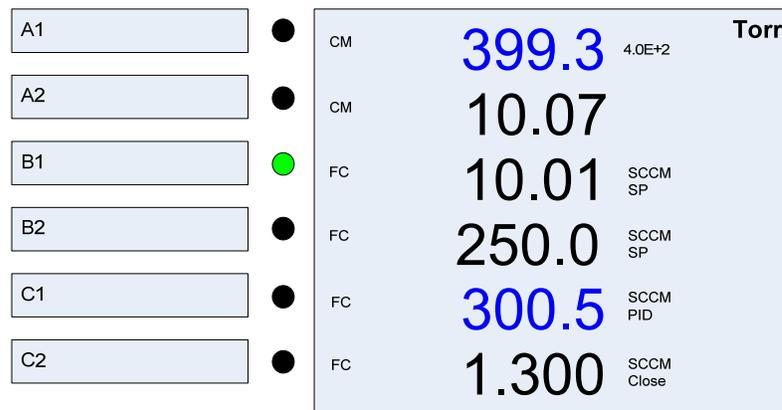

Figure 6-18 Front Panel Display during PID Control using Single MFC
- During PID control process, the active MFC flow reading and corresponding controlling pressure gauge reading are displayed in blue color to assist in distinguishing between these channels. In addition, PID will be displayed as well to indicate that channel C1 is under the PID control as shown in Figure 6-18.